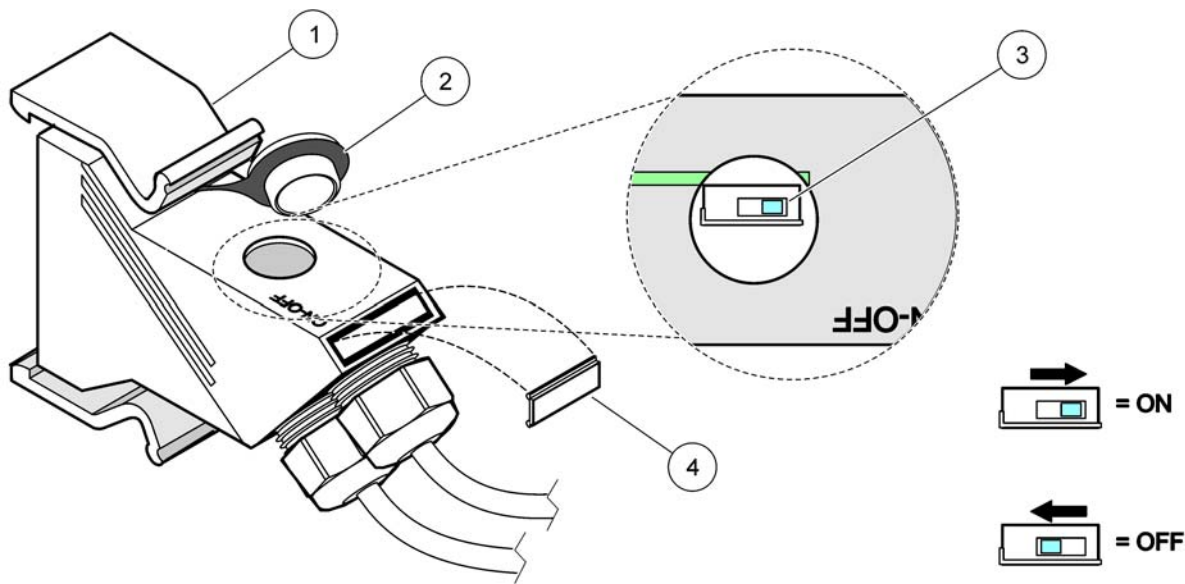

Figure 33 Setting a terminating resistor (DIP switch in the connector)
- Set a terminating resistor at the last network connector to the ON position (see Figure 33 and Table 12).